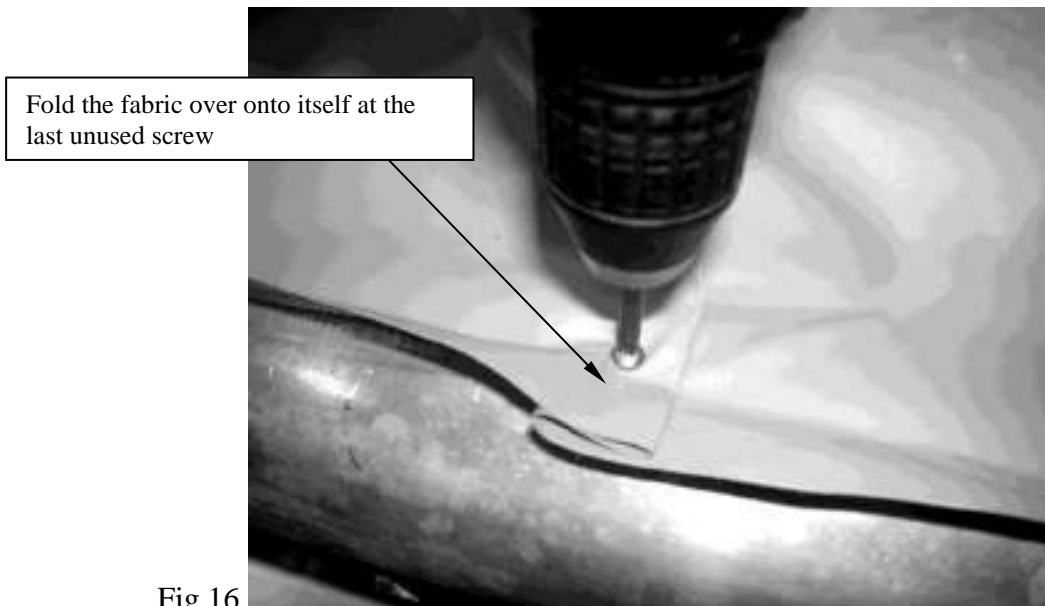

Fig 16
10. The cover drum has a series of pre-drilled holes in line with the end holes. Find the center of the cover by pulling it taut across the drum. Using the provided sheet metal screws, attach the center of the cover to the center hole of the drum. Start at the center and work towards either end attaching the cover to the drum by pulling the cover tight and securing to the drum using the sheet metal screws. When the last unused screw is reached, there will be excess fabric. Fold the excess cover onto itself and insert the sheet metal screw through the fold and attach to the drum. Repeat for other side. (Fig 16)